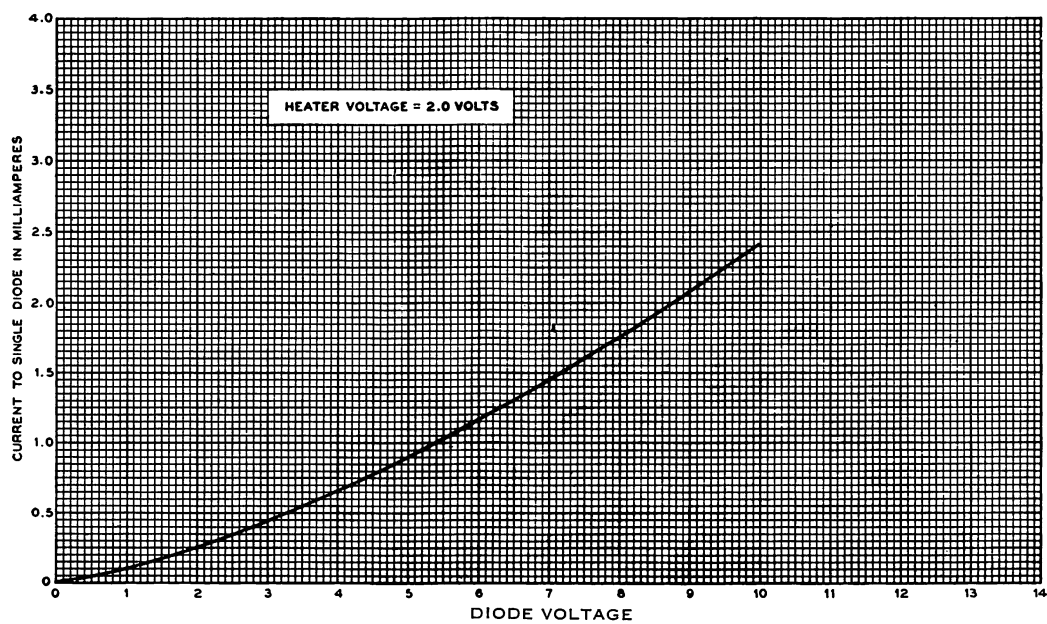
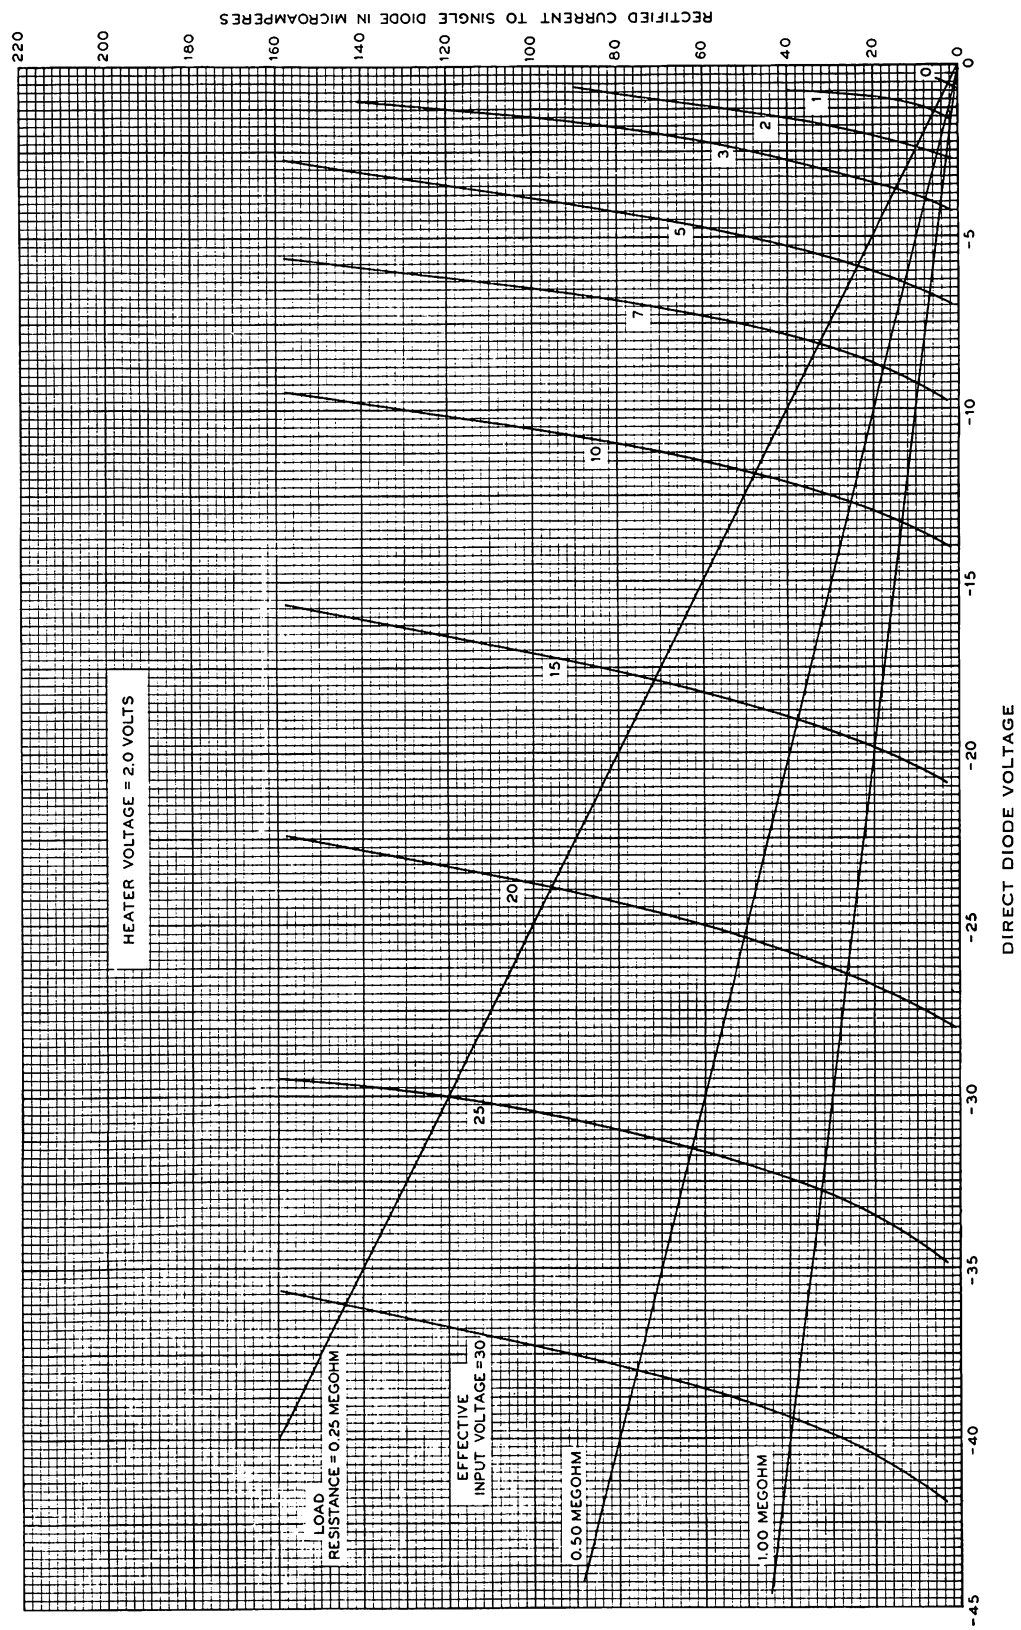

FIG. 8
FIG. 9
**Diode Characteristics**—The current-voltage characteristic of a single diode is shown in Figure 8. The potential of each diode plate with respect to the cathode on the positive swing of the input voltage should be limited to a maximum value of  $+10$  volts. Rectification characteristics for a single diode are shown in Figure 9 for a number of values of impressed alternating input voltage. Each of these characteristic curves gives the relation between the direct voltage impressed on the diode plate and the average diode current as indicated by a direct-current microammeter for a constant impressed alternating input voltage of the value specified. Where the diode is used as a detector with the usual condenser-resistance circuit, the direct component of the voltage developed across the resistance by a given alternating-voltage input is given by the intercept of the load line corresponding to the load resistance with the rectification characteristic corresponding to the input voltage. Load lines for zero fixed bias are shown in Figure 9 for load resistance values of 0.25, 0.5 and 1.0 megohm.